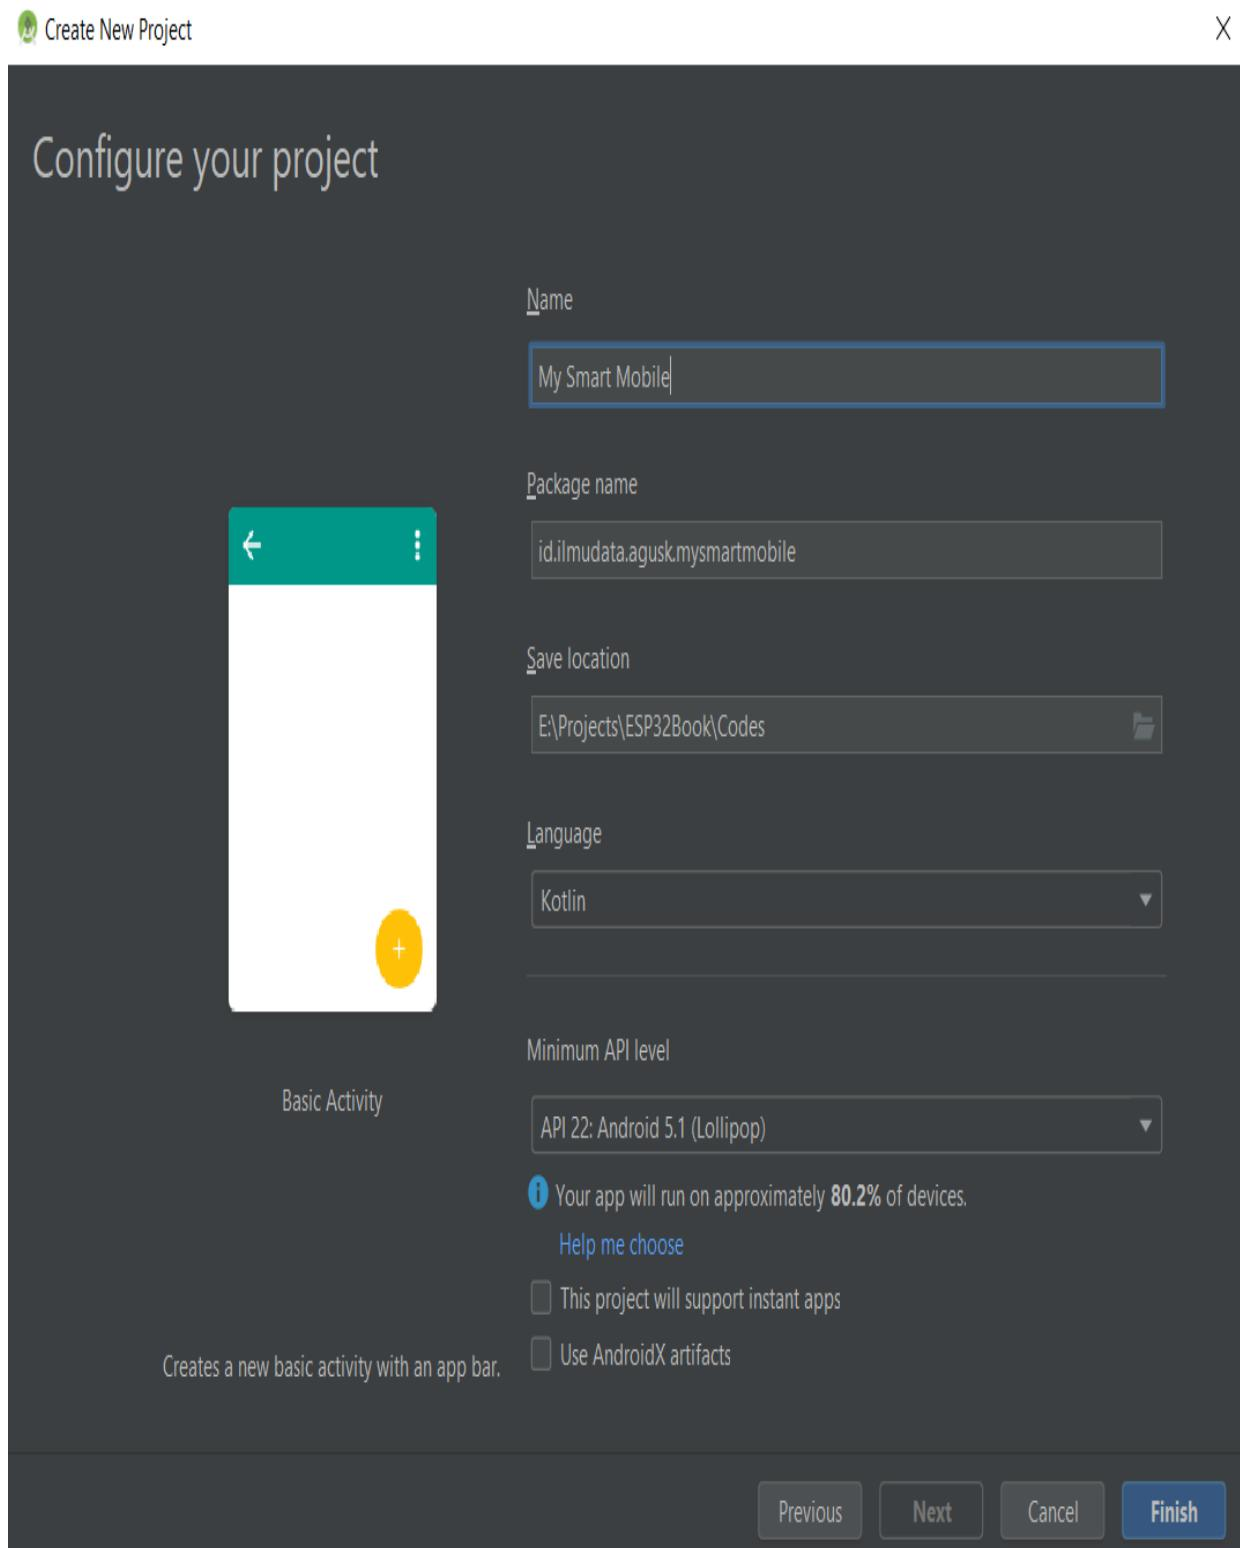
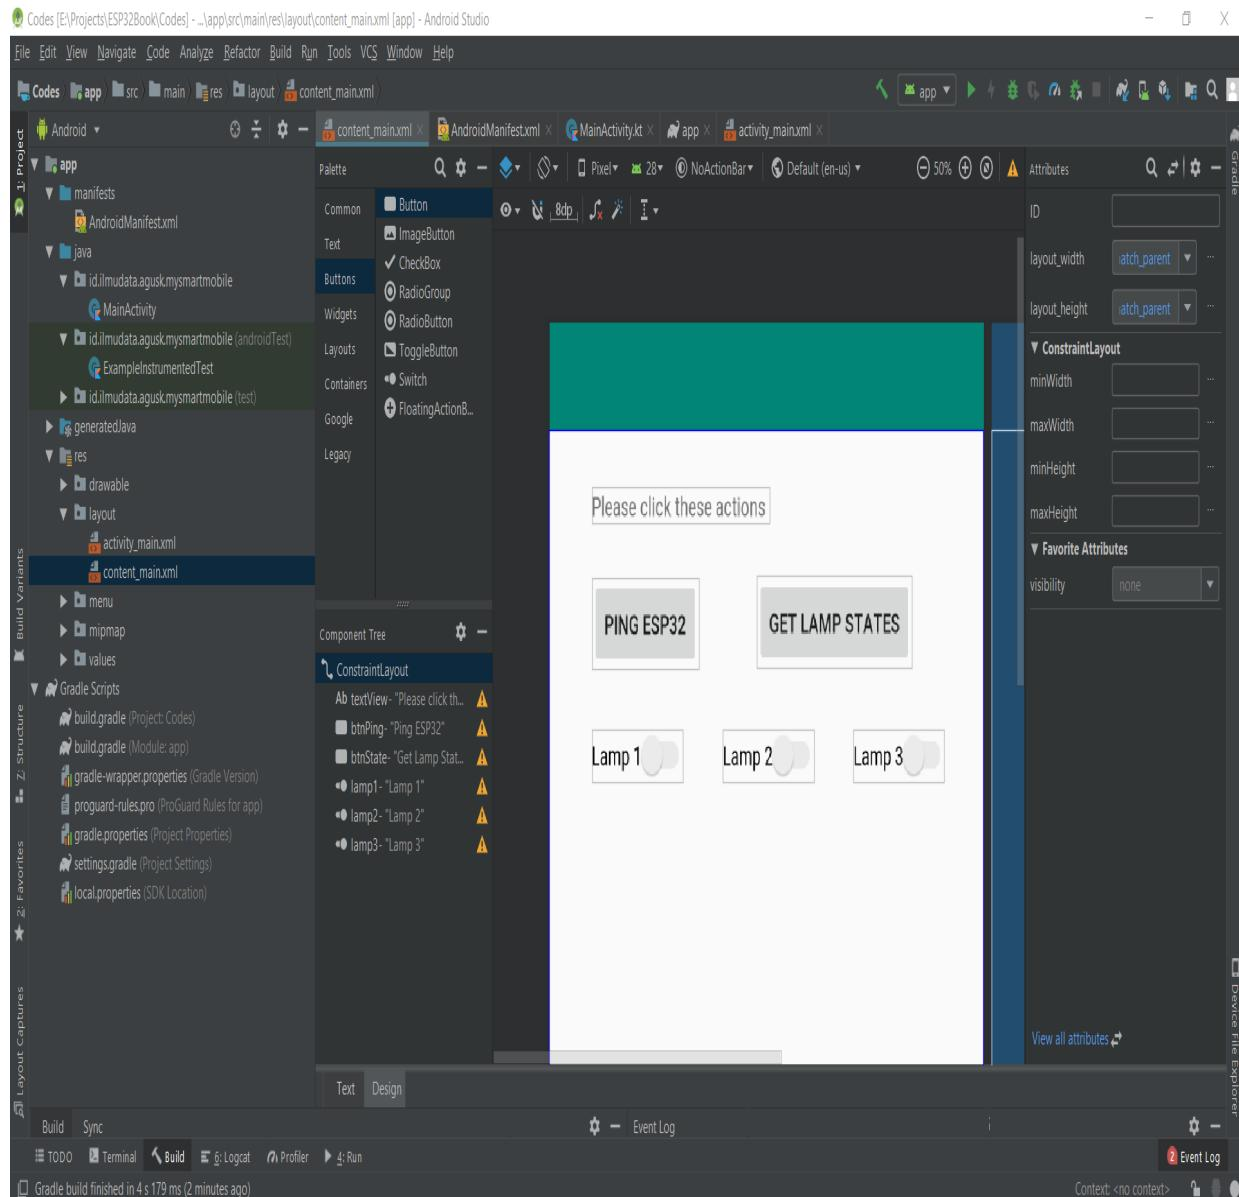

Figure 9.4: Setting the project configuration
Figure 9.5: Developing the UI for the Android application
2. You will get a form as shown in *Figure 9.4*. Fill in your project name and select Kotlin as the programming language. For Minimum API level,
3. After all the fields in the form's dialog box are filled in (as seen in *Figure 9.4*), we click on the Finish button. You will get your project files and configurations in Android Studio (refer to *Figure 9.5*).
1. We will design our UI as shown in *Figure 9.5*. The PING ESP32 button is used to perform the `/ping` request to the ESP32 board, while the GET LAMP STATES button is used to get lamp states from the `/state` request to the ESP32 board.